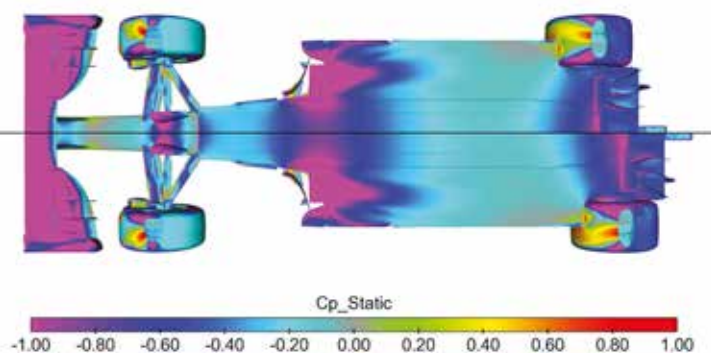

Figure 1: Underside surface pressures with original and 200mm extended wheelbase
**Figure 1.** MA commented: ‘As expected the downforce went up because of the bigger floor area, and the balance shifted towards the rear.’ Indeed, close inspection of **Figure 1** reveals that not only did the ‘suction peak’ at the diffuser transition move aft relative to the rest of the car, but also somewhat lower pressures were obtained in parts of the diffuser. Downforce increased by 4.7 per cent compared to the baseline model, and L/D went up by 3.0 per cent with a 1.5 per cent (absolute) rearwards shift in aerodynamic balance (%front).